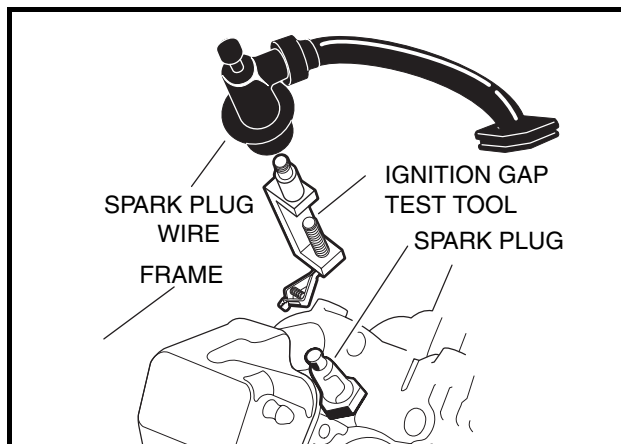

Figure 11-21 Ignition Spark Test
2. Remove the plug wire from the spark plug. Using an ignition spark gap test tool (Thexton 404[®] or equivalent), check for correct spark (**Figure 11-21, Page 11-22**).